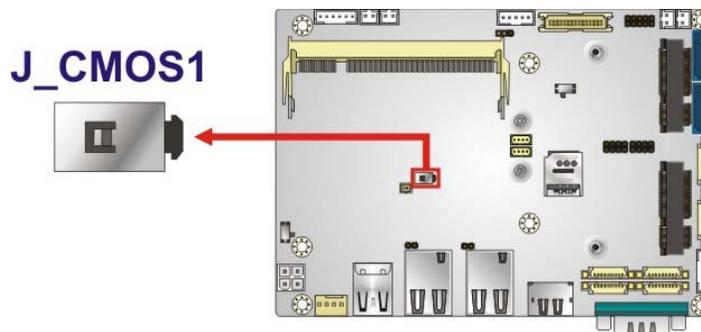

Figure 4-10: Clear CMOS Button Location
- CN Location:** See **Figure 4-10**
The location of the clear CMOS button is shown in **Figure 4-10**